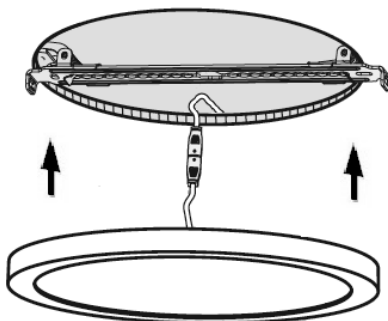

Fig. 4
- Push the luminaire directly onto the bracket (see Fig. 4)